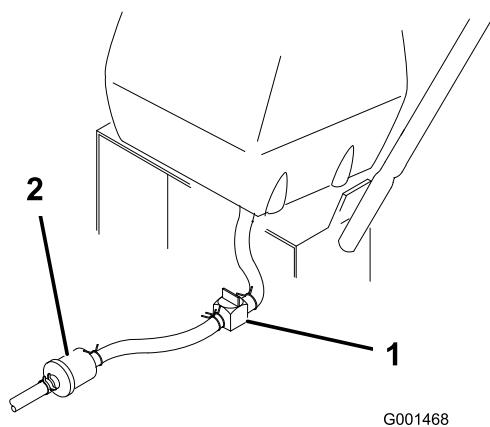

Figure 27
- Close the fuel shut-off valve at the fuel tank (Figure 27).
- Squeeze the ends of the hose clamp together and slide it up the fuel line away from fuel filter (Figure 27).
- Pull the fuel line off the fuel filter (Figure 27). Open the fuel shut-off valve and allow the gasoline to drain into a gas can or drain pan.
3. Close fuel shut-off valve at the fuel tank (Figure 27).
7. Open fuel shut-off valve at fuel tank (Figure 27).